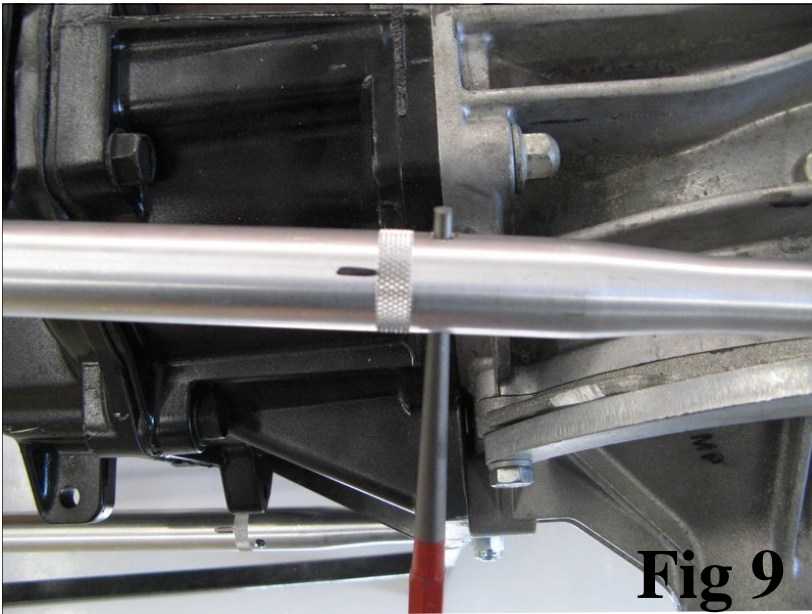

Fig 9
30. Turn the four strut rods by hand clockwise until they snug up. (fig. 9)
32. Insert a punch into the hole and turn each bar clockwise one half turn using the black line as your measurement. Be sure all strut bars are being shortened while turning, the object of tightening the strut bars is to bring the rear and transmission assembly together. (fig. 9)